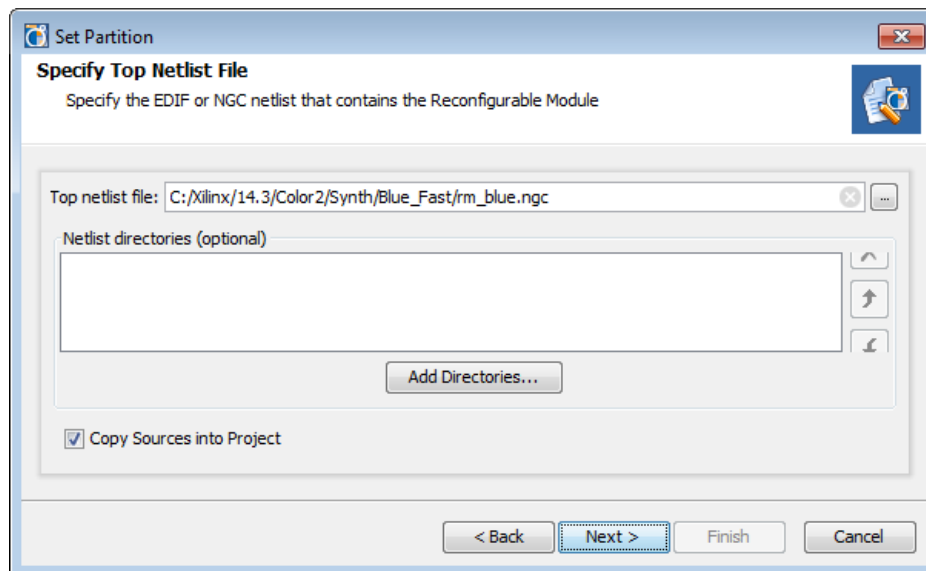

Figure 4-8: Defined Reconfigurable Partition with Single Reconfigurable Module
- In the Set Partition dialog box, shown in Figure 4-8, provide the path to the NGC file.